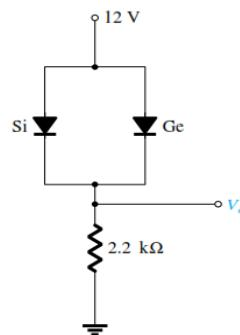

Fig. 8.
2. Determine the voltage V_o for the network of Fig. 8.